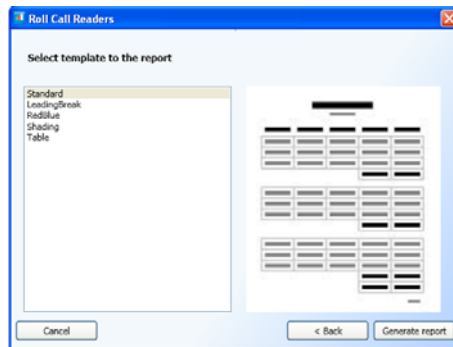

Figure 163: Reports wizard – Report Design Template screen
3. Click **Next>** to define the look of the report in the report design template screen, see Figure 163: Reports wizard – Report Design Template screen, on page 137.
14. Click **Next>** to define the look of the report in the report design template screen, see Figure 163: Reports wizard – Report Design Template screen, on page 137.